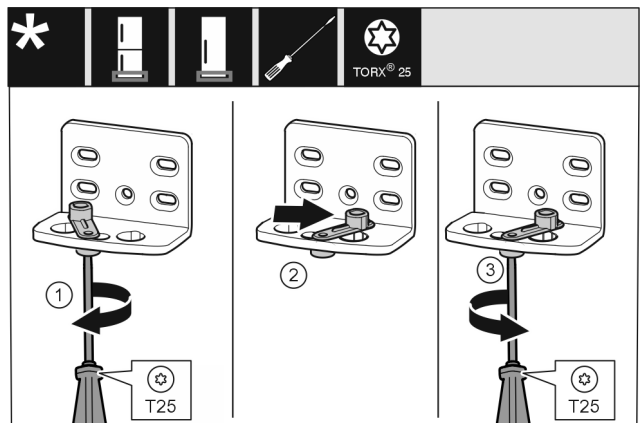

Fig. 17 *
- ▶ Use screwdriver to loosen the screw Fig. 17 (1).*
- ▶ Lift the door closing aid Fig. 17 (2) and turn 90° clockwise in the hole.*
- ▶ Tighten screw Fig. 17 (3) with screwdriver.*